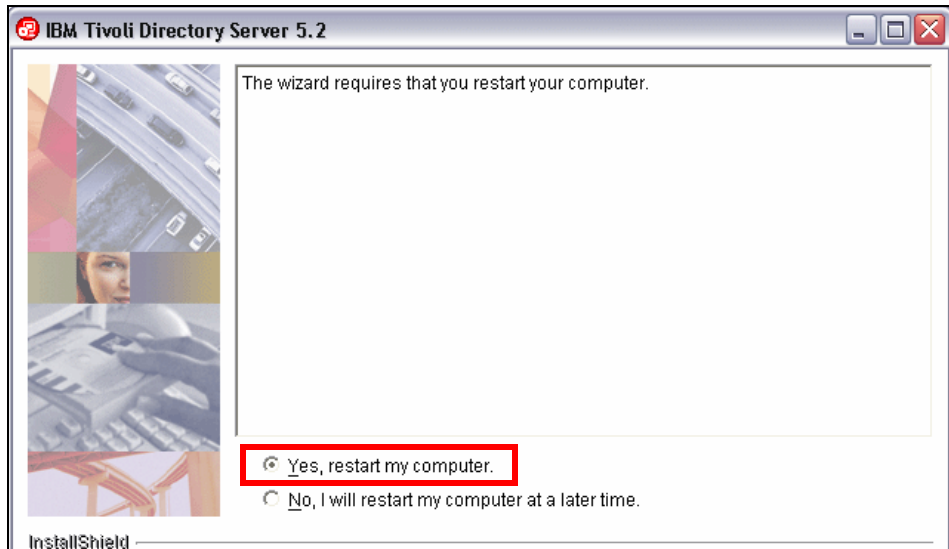

Figure A-42 Tivoli Directory Server: Installation complete
- ▶ After the installation is performed, the system must be restarted (Figure A-42).